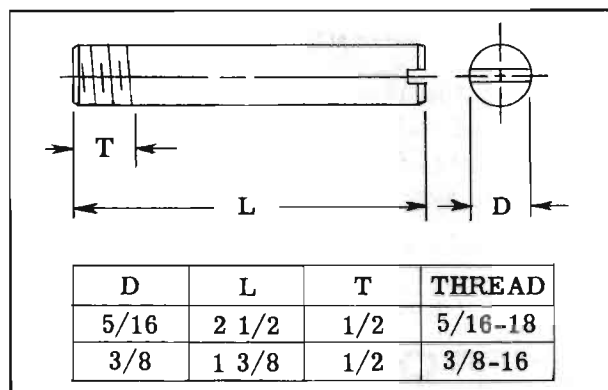
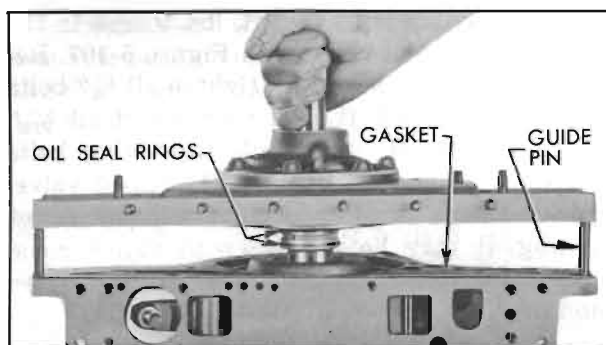

Figure 5-95—Guide Pins
Figure 5-103—Installing Reaction Shaft Flange and Gasket
6. Prepare two  $\frac{5}{16}$ "x2 $\frac{1}{2}$ " guide pins and two  $\frac{3}{8}$ "x1 $\frac{3}{8}$ " guide pins with screwdriver slot in plain end, as shown in Figure 5-95. These will be used for alignment of parts during assembly.
1. Install a ⅝" guide pin (fig. 5-95) in accumulator bolt hole at each end of flange on transmission case. See Figure 5-103.
4. Make certain that oil seal rings are on flange hub, then install flange assembly on case using care to avoid damaging oil seal rings. See Figure 5-103.
2. Install two  $\frac{5}{16}$ " guide pins (fig. 5-95) in transmission case to guide each end of servo body, and install servo body spacer plate gasket over guide pins.
11. Install a  $\frac{5}{16}$ " guide pin (fig. 5-95) at each end of transmission case and install a new oil pan gasket over guide pins. Install oil screen.